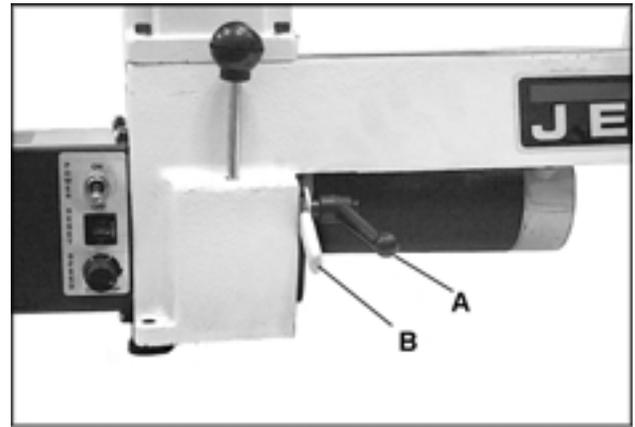

Fig. 12
3. Loosen the motor plate lock handle (A, Fig. 12). Lift up on the motor plate handle (B, Fig. 12) to take tension off the belt.
5. Tension the belt by pushing down on the motor plate handle (B, Fig. 12) and lock in place.
2. Loosen the motor plate lock handle (A, Fig. 12). Lift up on the motor plate handle (B, Fig. 12) to take tension off the belt.